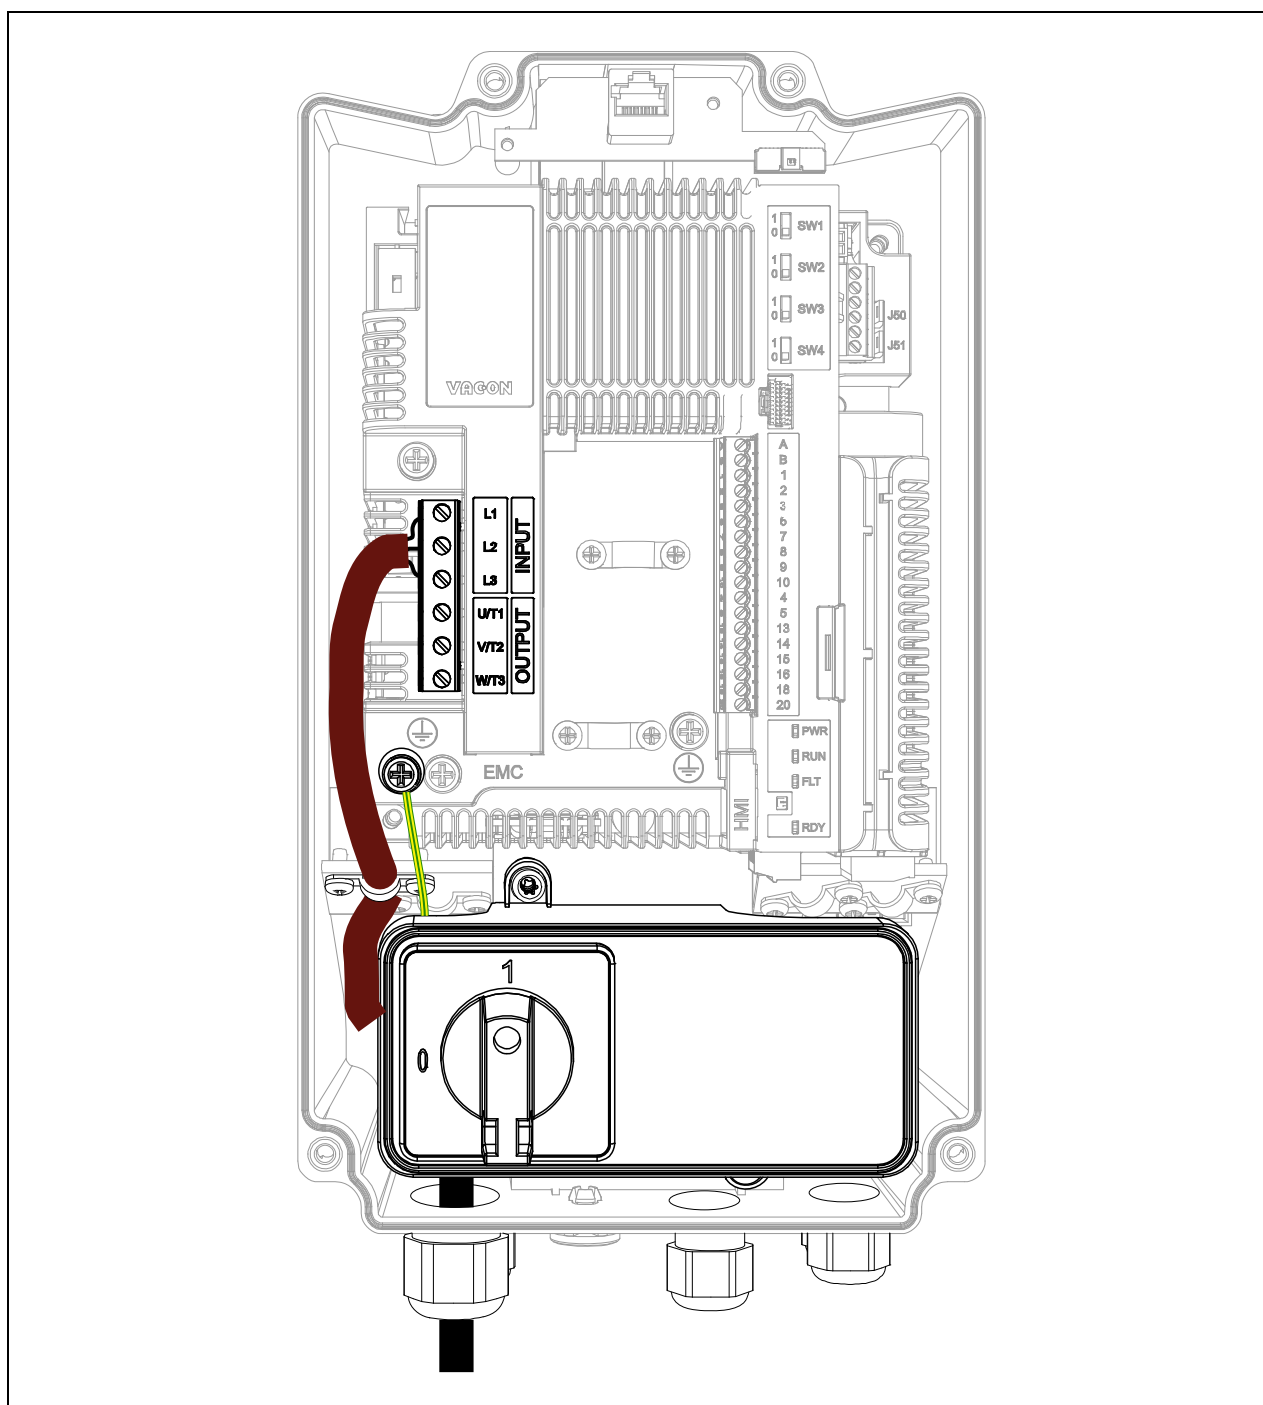

Figure 64. Mains switch and cables connected (MU2 3-phase example).
- Connect the GROUND wire to the proper terminal (see the yellow-green cable on Figure 64).